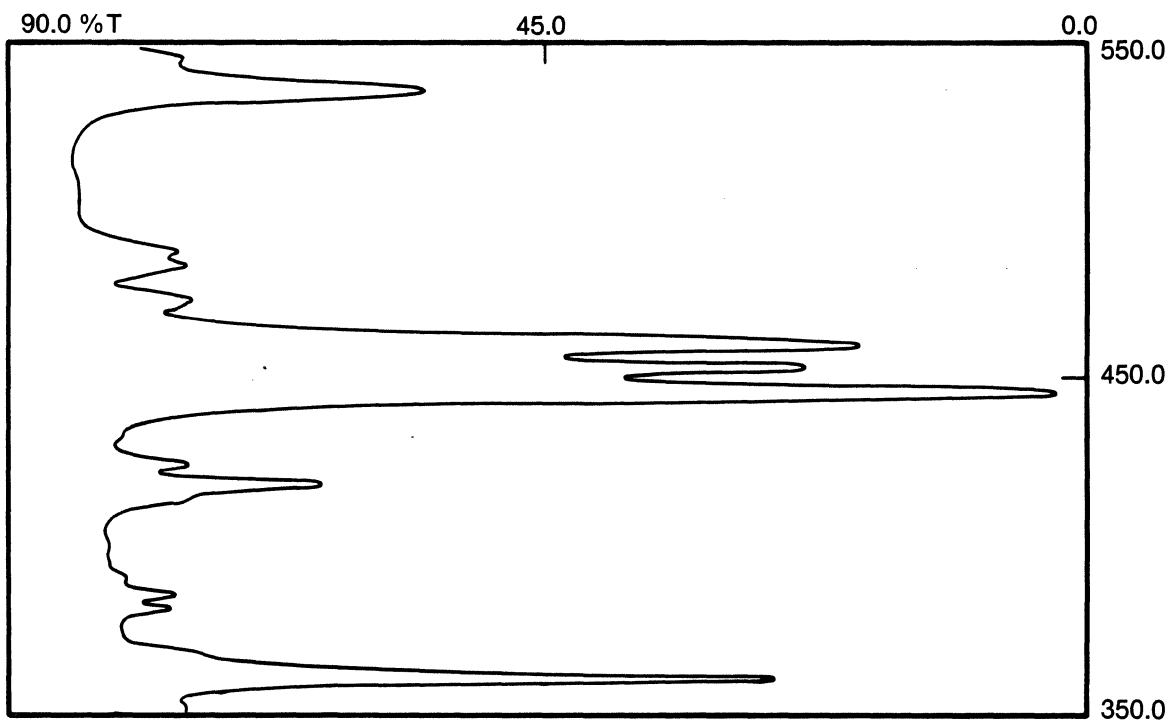

Figure 9-3. Plot of Stored Spectrum With Parameter List
The stored spectra can be plotted on the printer/plotter as shown in Figure 9-3. The following functions are demonstrated in the procedure that follows:
4. Press the **Plot Mode** key to select the line type for the plot. The choices are - (1) FULL, (2) DOTTED, (3) BROKEN, and (4) CHAIN.
5. To print a header for the data and a listing of the parameters associated with the spectrum, press the **Print List** key. A sample of the print out obtained is shown in Figure 9-3.
6. Press the **Scaling** key. Three choices are displayed - (1) ON, (2) OFF, and (3) DRAW. Selections are made as follows:
- a. If sequential plots are being made, select (1) ON to automatically draw the axis each time a plot is made.
- b. If overlay plots are being made, select (3) DRAW. Two things will happen. First, the 9420/30 will draw the axes on the printer/plotter and rewind the chart paper to the beginning of the axes. Secondly, the Scaling status will be set to (2) OFF, automatically. This prevents the axes from being redrawn each time a plot is made.